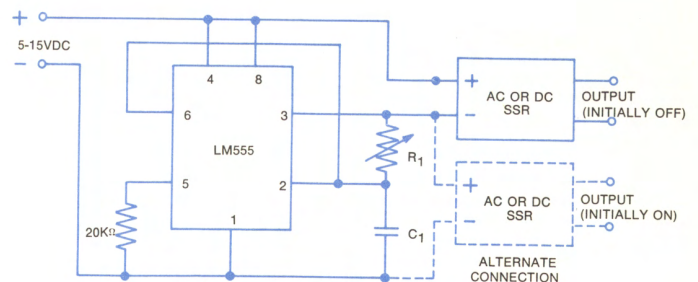

Fig. 2-26 Multivibrator/flasher driver for SSRs.
2.6.12 Multivibrator/Flasher Driver for SSRs (Fig. 2-26)